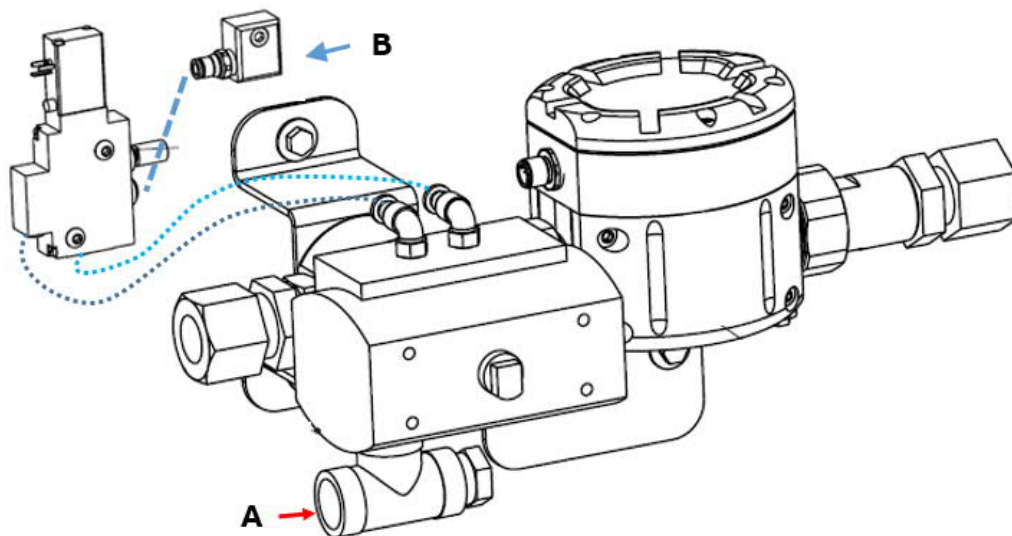

Figure 8. Flushing water (A) and instrument air (B) connections.
- Flushing water has R1/2" inlet connection (Figure 8 A).
- Instrument air connection: R1/4" inlet connection, outlet is 6/4 mm (Figure 8 B).